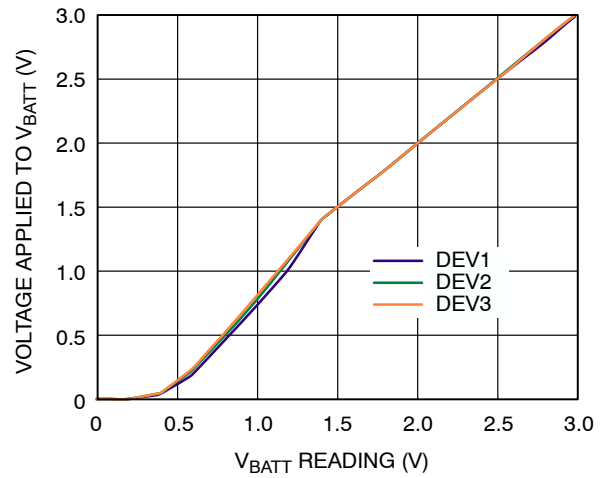

Figure 16. Applied Voltage vs. V_{BATT} Reading
4. Note that this specification does not apply if Pin 26 ($V_{BATT} + 1.2\text{V}$) is being measured in single-channel mode. See Figure 16 in the Typical Performance Characteristics section for V_{BATT} accuracy.